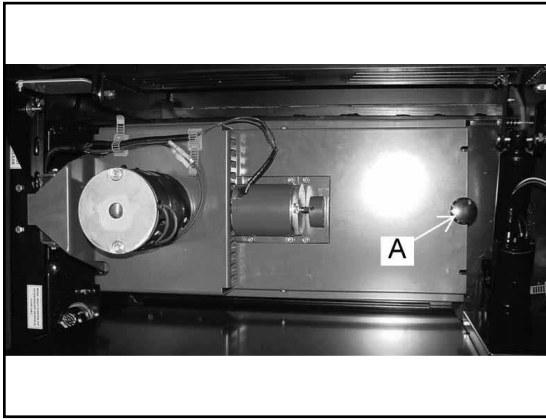

FIGURE 57
The dust control knob (A) is used to hold the dust control filter cover down as shown in figure 57. The dust control filter (B) is located under the front cover and will need to be removed periodically for cleaning or replacement. Removal of the filter panel requires no tools. The front cover must be opened to gain access to the filter compartment. The panel filter is held in place by a hinged frame and knob. To remove the panel filter, turn the knob counterclockwise and lift the hinged frame. The panel filter can now be lifted out and cleaned or replaced. To install the replacement panel filter, place a new filter in the machine, lower the frame and twist the knob clockwise to lock the filter in place.